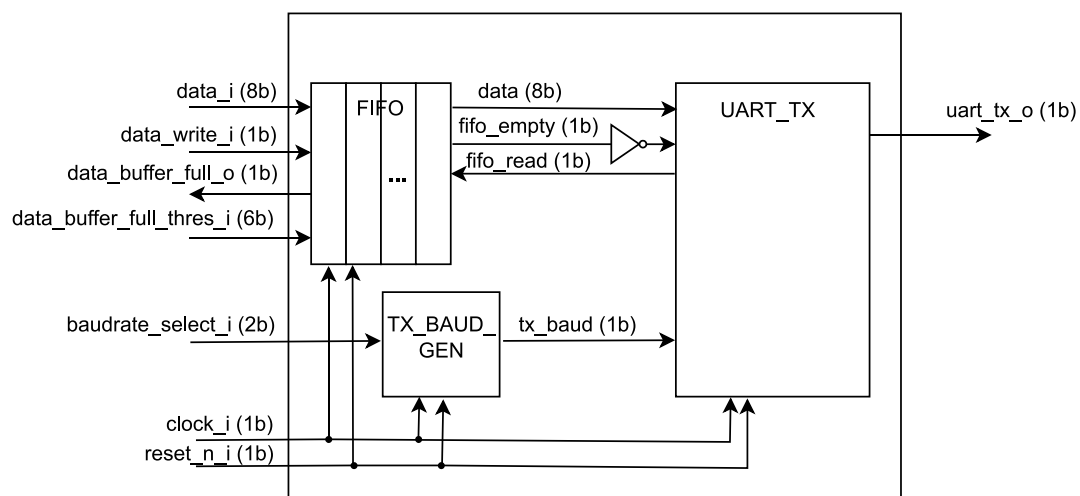

Figure 3 Block diagram of the UART_TRANSMITTER module
- 1) Starting from the architecture presented in Figure 3, propose a detailed connection of the three submodules.